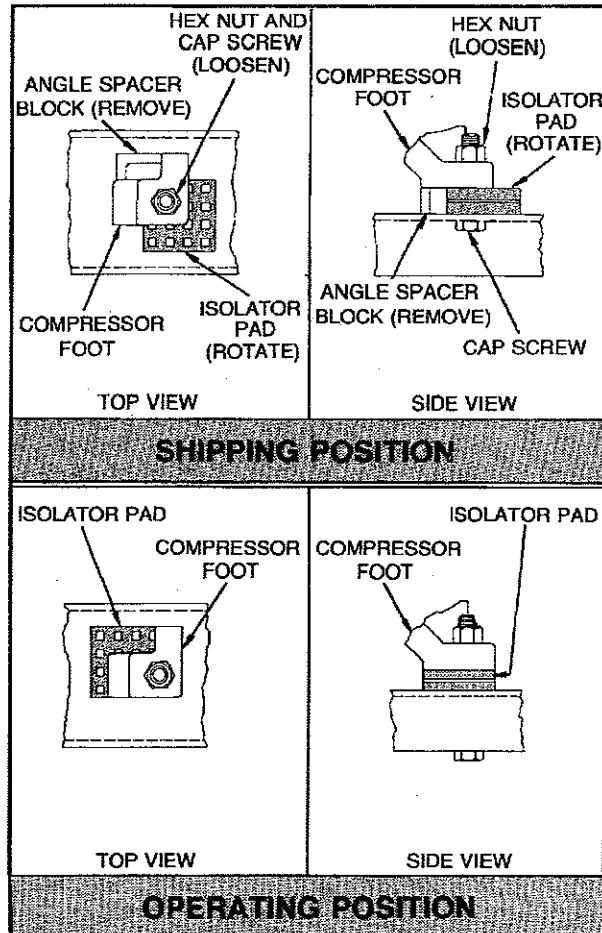

FIGURE 10 - Isolator Pad Adjustment for Model E Compressor
1. Loosen the hexnut on the cap screw that runs through the compressor foot and isolator pad. See Figure 10.